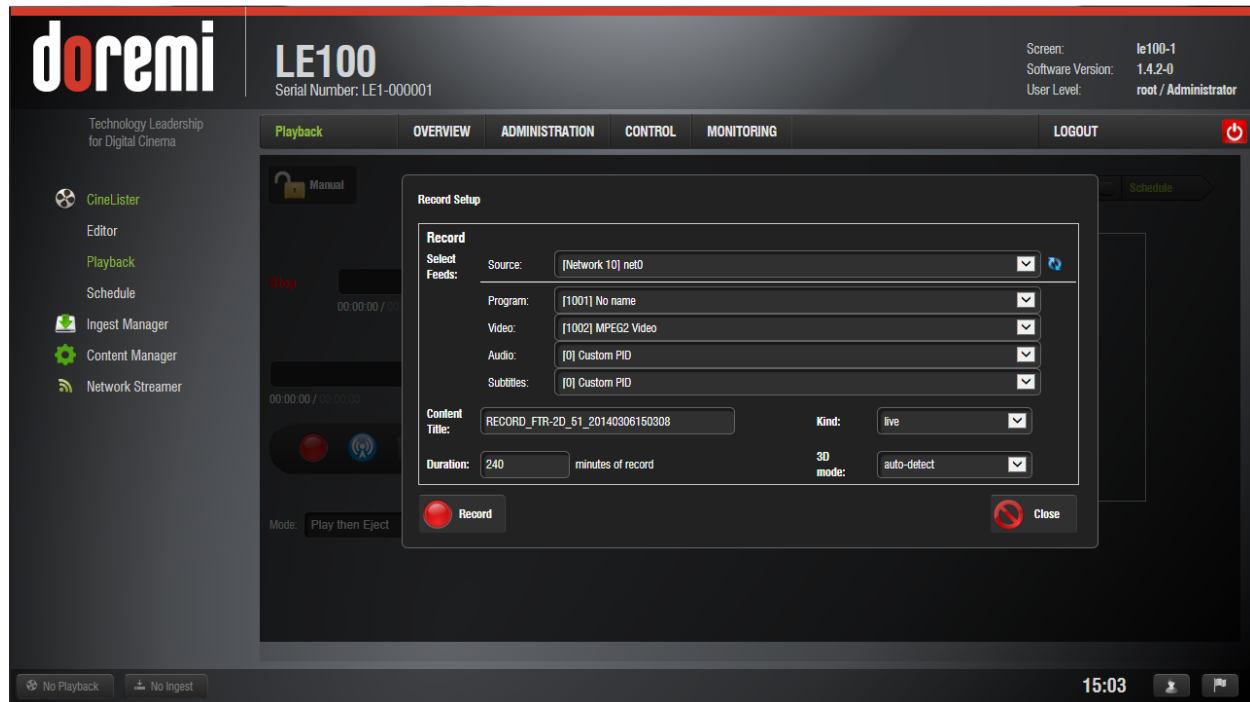

Figure 20: Record Set Up
- Click on the “Record” button and the Record Setup dialog window will appear (see Figure 20).